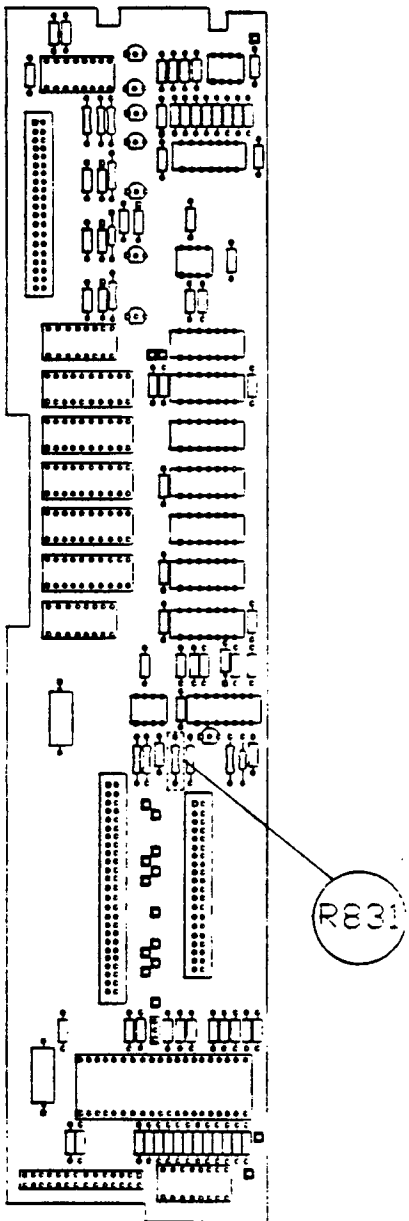

Figure 2: - Side circuit board, R831 location.
- 18. Before re-assembly examine the Side circuit board shown in Figure 2. If R831 resistor is located on the Side circuit board proceed with the next section **Side circuit board (R831) removal**. If R831 is not on the Side circuit board A13, disregard the following section and reassemble the instrument in reverse steps.